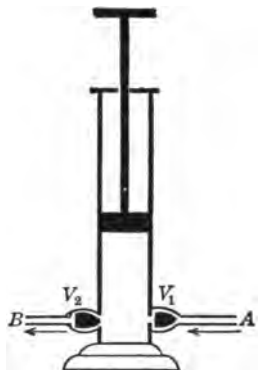

FIG. 51. — Compression air-pump.
61. The Compression Pump. A compression pump is used to compress gases, or to crowd several atmospheres into a given volume. Fig. 51 shows the construction of one type of compression pump. As the piston, which fits the cylinder so perfectly that it is air-tight, is raised, air enters through the valve V_1 , the valve V_2 remaining closed. On the downward stroke of the piston V_1 closes and the air is forced through V_2 into the container.